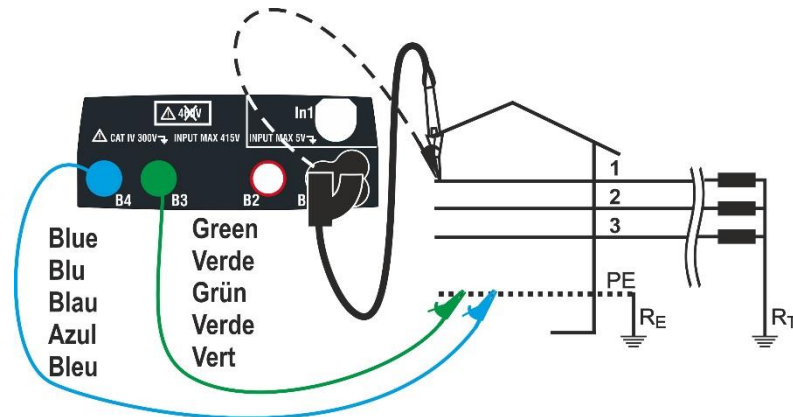

Fig. 22: P-PE/P-N measurement for 400V + PE (no N) systems by means of single cables and remote lead
4. Perform the preliminary calibration of the test leads as described in § 6.4.2. Connect the shuko plug, the alligator clips or the remote lead to the electrical mains according to Fig. 18, Fig. 19, Fig. 20 and Fig. 22.